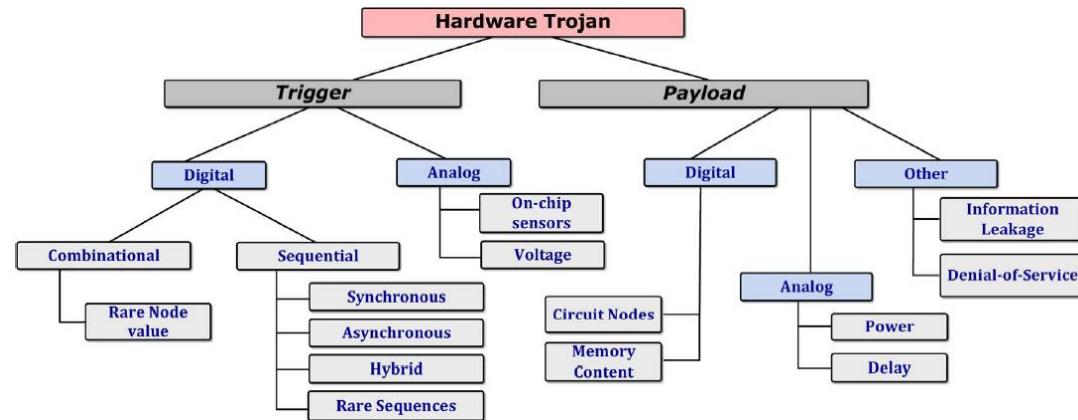

Figure 2 Trojan taxonomy based on trigger and payload mechanisms.
The taxonomy of Trojan circuits has been presented in various forms, and it continues to evolve as newer attacks and Trojan types are discovered. Figure 2 shows a high-level classification based on variations in activation mechanism and Trojan effect.
- 11) What classification does your Trojan belong to? Refer to Figure 2 to answer this question.